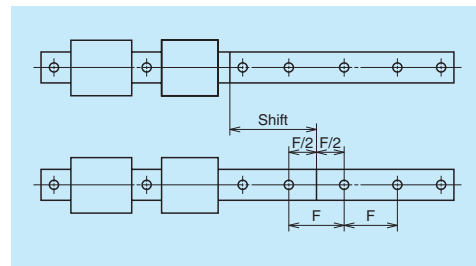

Fig. 10.26
- The pitch of the rail mounting hole on the butting section should be as F in Fig. 10.26.